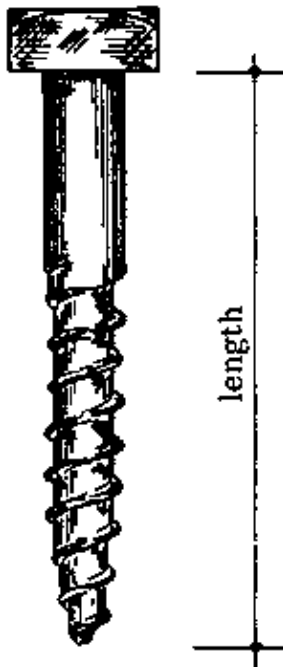

Fig. 4
– COACH SCREWS: This is a strong screw with a square head. Unlike other wood screws, it is turned with a spanner. Always put a metal washer under the head to prevent damage to the wood surface. The length is measured from the point to the underside of the head (Fig. 4).